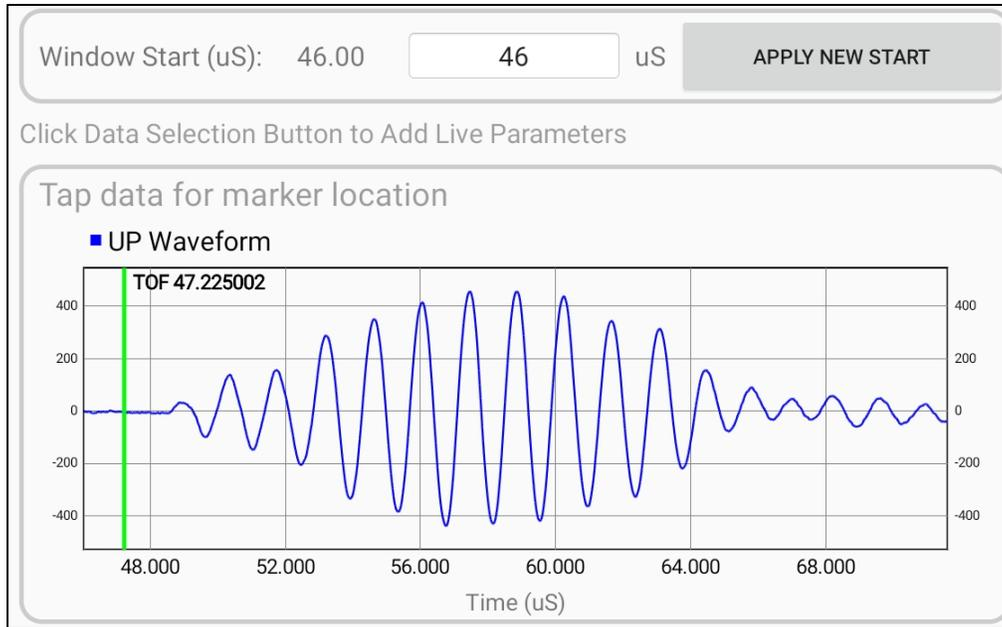

Figure 26: Waveform Start Shifted to 48uS
- If it is desired to move the waveform within the display window, a new start value can be entered in the input box and applied. For example, to shift the waveform left, a new window start can be entered as 46uS and applied. This is shown in Figure 26.